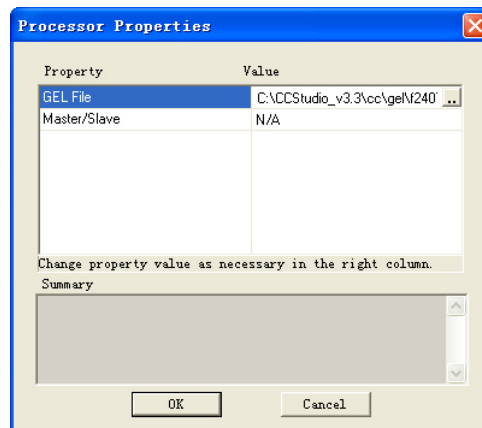

Figure 3.9 CPU properties dialog box
9. CPU properties dialog box show in Figure 3.9, users can modify the CPU property. In